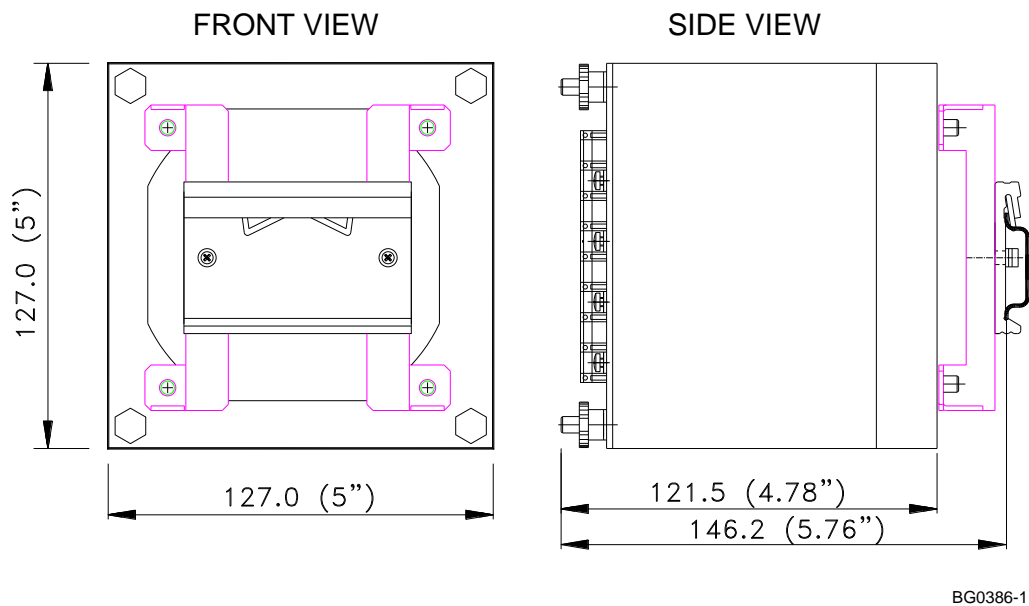

Figure 3-7 Dimensions
120V inputs usually imply use of a potential transformer (PT). The PT requires use of any of the four wiring configurations shown in Figures 3-7 through 3-10.